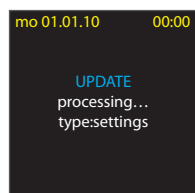

fig. 8
6. Upon pressing the button „START“ the software starts the transmission (figure 8).